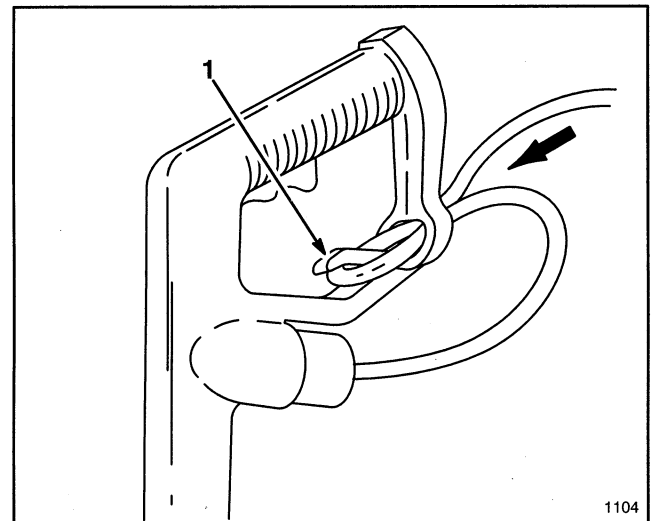

Figure 12
2. Form a loop in the extension cord and insert it into the slot in the rear of the upper handle (Fig. 12).
3. Secure extension cord in cord lock as shown in Figure 12.